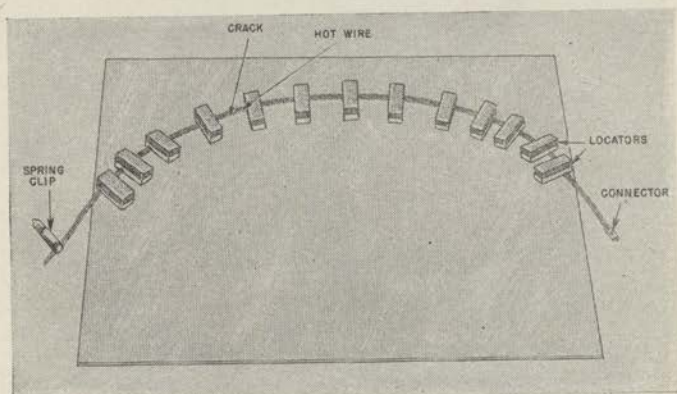
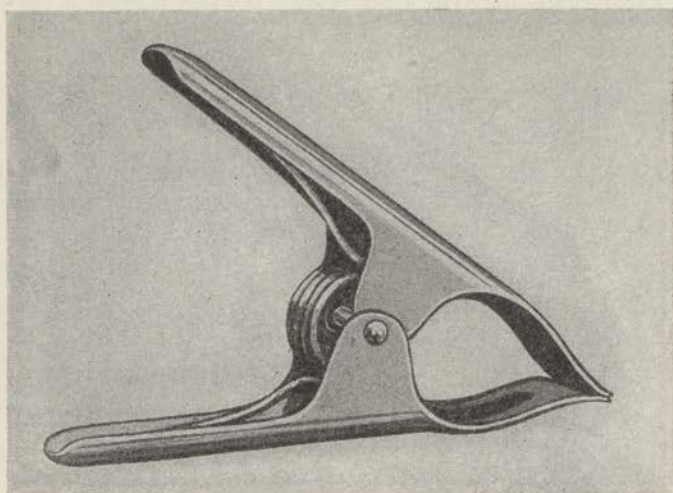
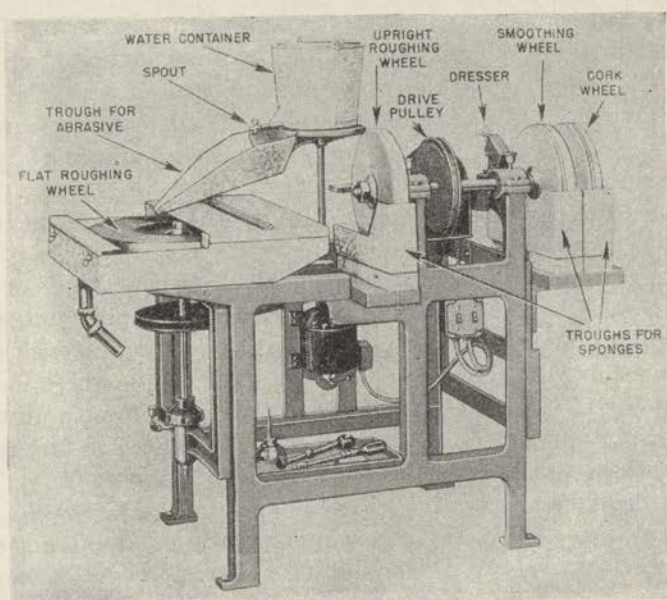

FIGURE 134.—Hot wire.
FIGURE 135.—Clamps.
FIGURE 136.—Wheel edger.
(2) The hot wire (fig. 134) is a wire coil 60 or 72 inches long or even longer, and about $\frac{1}{4}$ inch in diameter, usually heated electrically. Weight it down on the waste piece, following along the crack, with the notched asbestos-and-lead locators on the good piece. One lead from the switch on a 110-volt circuit is permanently connected to one end of the wire, and the other lead is attached by a clip at such a point on the wire that the wire is heated to a cherry red. As the glass is heated, grip the waste piece with glass pliers, holding the good piece with the other hand or with clamps (fig. 135) and pull straight out with moderate force. Bend the waste as little as possible. The heated plastic softens and the waste drops of its own weight. Waste pieces less than an inch wide may have to be removed with pliers.
(3) Common difficulties in the hot wire operation are bubbling in the plastic, caused by too hot a wire or too long a heating time; separation of glass sheets along the edge of the cut, caused by stretching the plastic excessively; and chipping along the cut, caused by bending the waste strip up and down, rather than pulling it straight out.
46. Finishing.—Cut edges of glass are dangerously sharp and must be handled with particular care. If installed in this condition, they will damage the channels. They are therefore ground to a smooth finish on an edging machine (figs. 136 and 137). The wheel-type edger (fig. 136) is a combination edger with the different wheels necessary to make a complete finishing job, roughing, smoothing, and